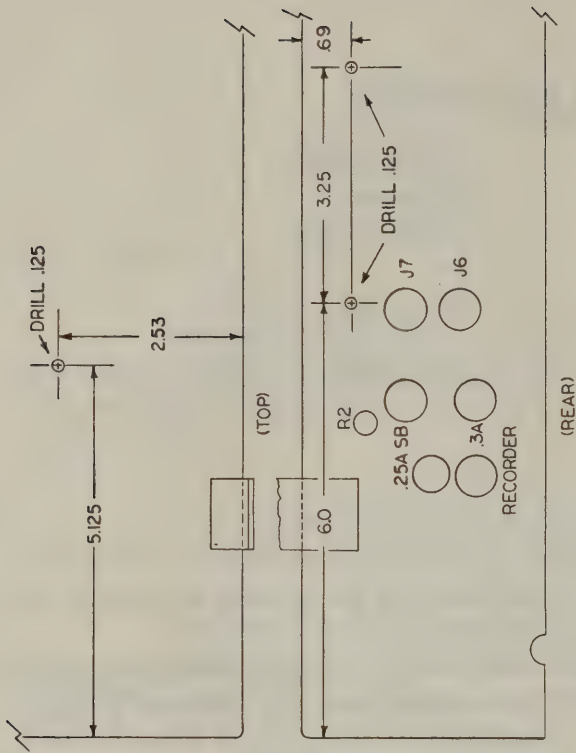

Figure 4. Mounting Hole Location Model 128
For Model 128, see Figure 4.
- e. Cut off the long free end of the Brown wire. Leave enough to make the jumper connection from terminal 2 to 3 on the jack, as indicated in Figure 4.